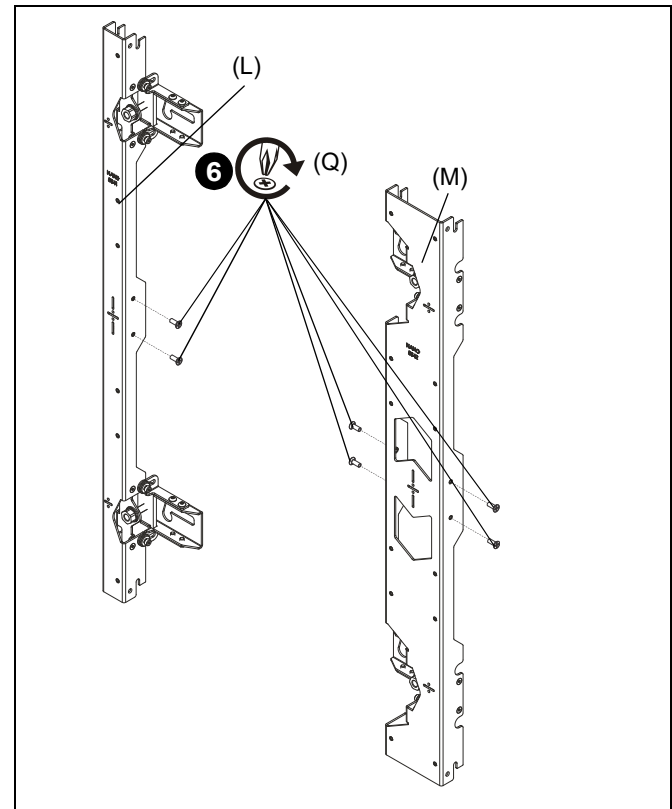

Figure 4
6. Loosely install #10-24 x 1/2" Phillips undercut machine screws (Q) into uprights (L, M or N) that will be attached to spacer plate (P). (See Figure 4)